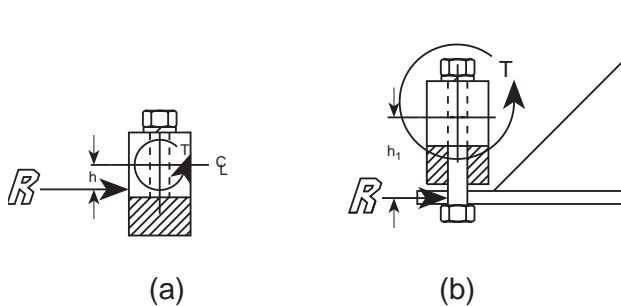

Figure 1-17
Typically, a side force does not act exactly at the neutral axis and hence produces a torque or twisting effect in addition to the side force. A load cell can be subjected to a torque (T) in a number of ways. Figure 1-17 (a) illustrates a condition where the line of action of a side force is moved away from the neutral axis by a distance h resulting in a torque of Rh . Figure 1-17 (b) illustrates a situation where the load is hung from the cell using a bolt. Any side force applied by this arrangement has a much larger twisting effect on the cell because of the increased distance h_1 to the neutral axis.